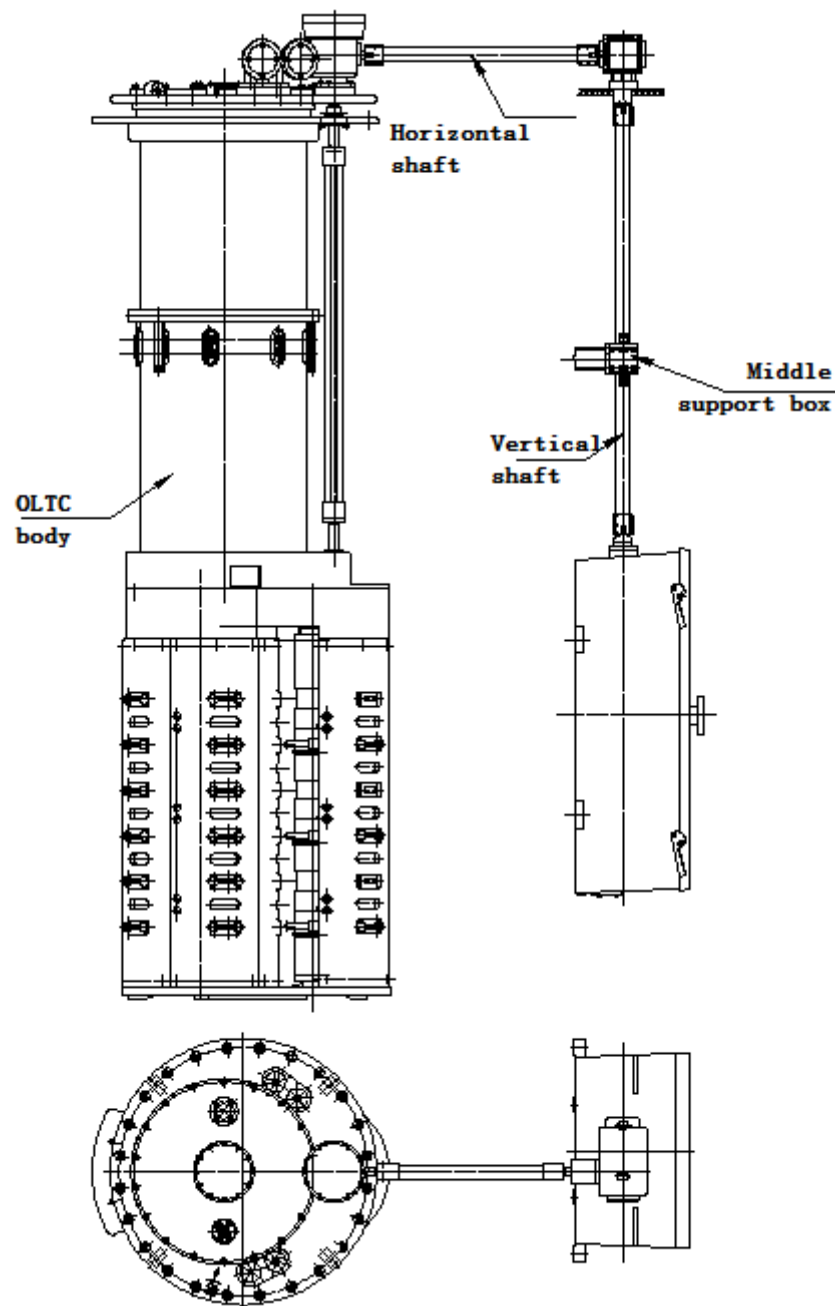

Figure24
3. If the vertical shaft is longer than 2m, it is necessary to install middle support gearbox (Figure 24) .